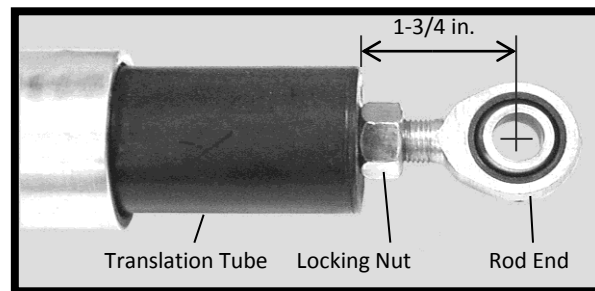

Figure 38: Actuator and Rod End
1. Unscrew the rod end (Figure 38) from the translation tube.
7. Screw the rod end into the translation tube until the center of the hole in the rod end is exactly 1-3/4 in. from the top of the translation tube (Figure 38).